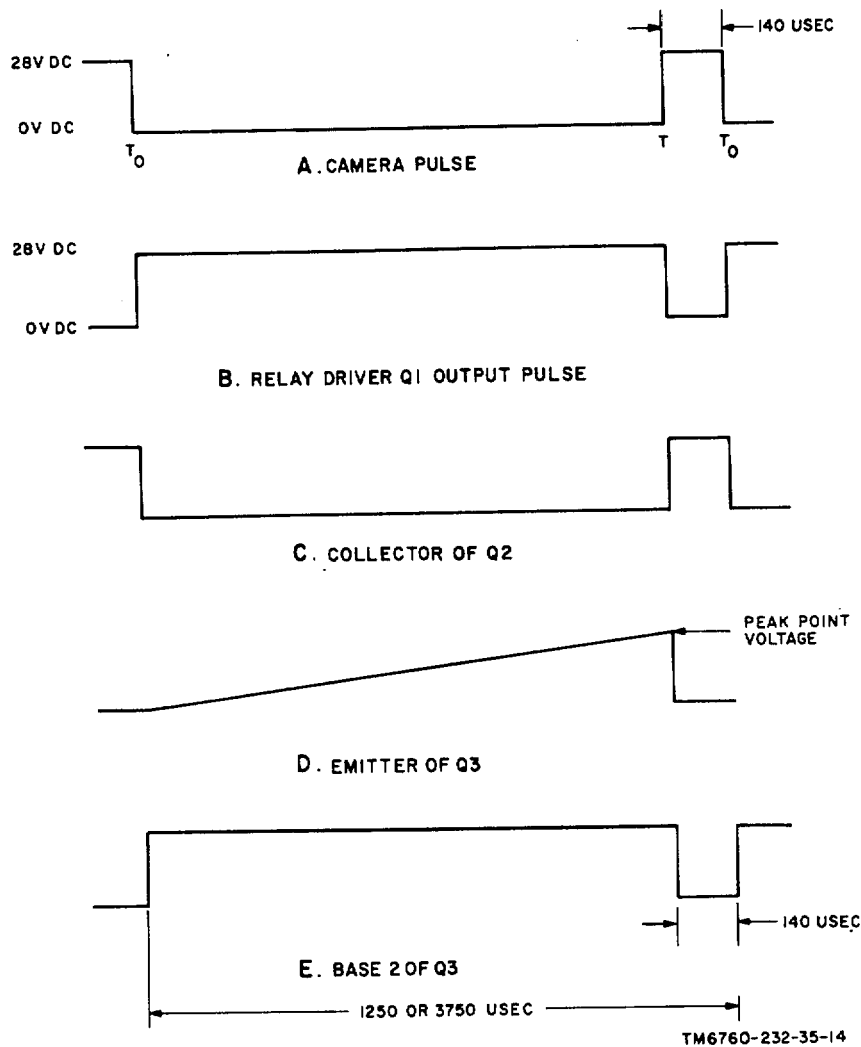

Figure 1-11. Input pulse generator A9 wave forms.
configuration because of its extremely stable peak point voltage characteristic. For low frequency operation, this characteristic permits independent adjustment of the two portions of the multivibrator timing cycle despite the appreciable difference in their lengths (fig. 1-11). Also, Q3 offers the advantage of an almost ideal rectangular waveform out-, and good timing stability and requires electrolytic timing capacitors of minimum size. Multivibrator Q2, Q3 generates a pulse every 3.75 seconds (its basic pulse rate) or every 1.25 seconds (its secondary pulse rate). The third element of input pulse generator A9 is relay driver Q1.
(2) From time T_0 (fig. 1-11), the charge period of timing capacitors C1 and C2:
toward + 30 vdc through timing resistors R8 and R9. Pulse rate adjustment R9 normally is set for a charge period of 3.6 seconds (E, fig. 1-11).
(b) The base of Q2 is clamped at a positive potential which holds Q2 in saturation during the charge period. In its saturated state, the collector of Q2 is approximately at ground potential (C, fig. 1-11) effectively shorting out bias resistors R2 and R3 and reverse biasing feedback diode CR2.
(c) The base of Q1 is clamped at ground potential and Q1 is cut off. The collector of Q1 is held at + 28 vdc (B, fig. 1-11) and camera frame pulse trigger Q22 (fig. 6-4) remains cutoff. With Q22 cut off, the output at its collector is ground (A, fig. 1-11).
(3) From T to T_0 (fig. 1-11), the discharge period of C1 and C2:
(b) When Q3 conducts, it generates a negative pulse which is applied across CR1 and the base-to-emitter junction of Q2, driving it into cutoff (D, fig. 1-11). Isolation diode CR1 protects the base-to-emitter junction of Q2 against excessive reverse bias when the negative pulse occurs. Reverse biasing Q2 causes its collector to rise rapidly towards + 30 vdc. The positive pulse at the collector of Q2 is amplified across collector load R4 and coupled through feedback diode CR2 and emitter current Limiter R7, further accelerating the switching of Q3 and the discharge of C1 and C2.
(c) The positive potential at the collector of Q2 is also applied directly across bias resistors R2 and R3. Forward bias at the junction of R2 and R3 is sufficient to drive Q1 into saturation (B, fig. 1-11). With Q1 saturated, ground is applied to the base of Q2, which is a PNP transistor (fig. 6-4), driving it into saturation. When Q2 saturates, + 28 vdc is applied to its collector circuit generating the simulated 140 millisecond camera frame pulse (A, fig. 1-11). Emitter diode CR4 protects the emitter-to-base junction of Q1 against excessive reverse bias when Q1 is again driven into cutoff at the end of the 140 millisecond camera frame pulse period.